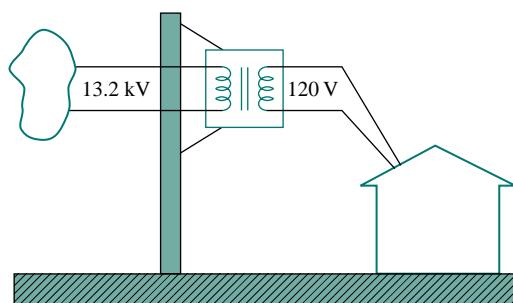

Figure 13.123 For Prob. 13.58.
- 13.58** The three-phase system of a town distributes power with a line voltage of 13.2 kV. A pole transformer connected to single wire and ground steps down the high-voltage wire to 120 V rms and serves a house as shown in Fig. 13.123.